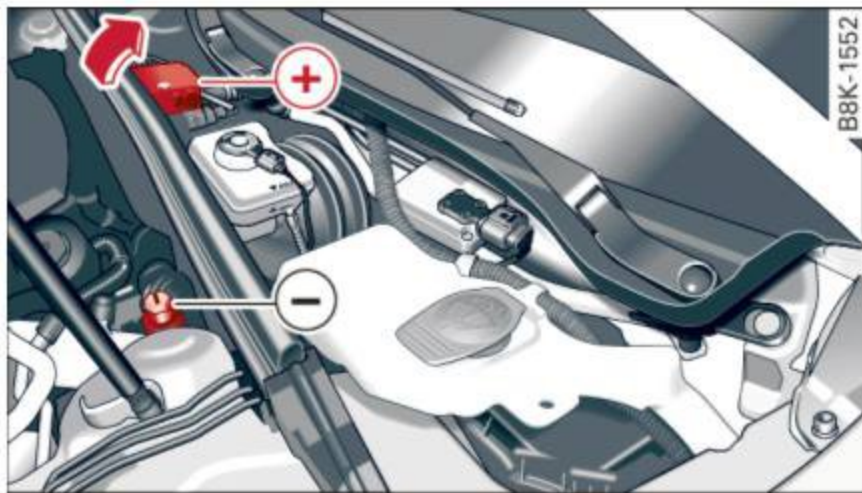

Fig. 165 Engine compartment: Connectors for charger and jumper cables
- ▶ Open the cover on the positive pole ⇒ fig. 165.